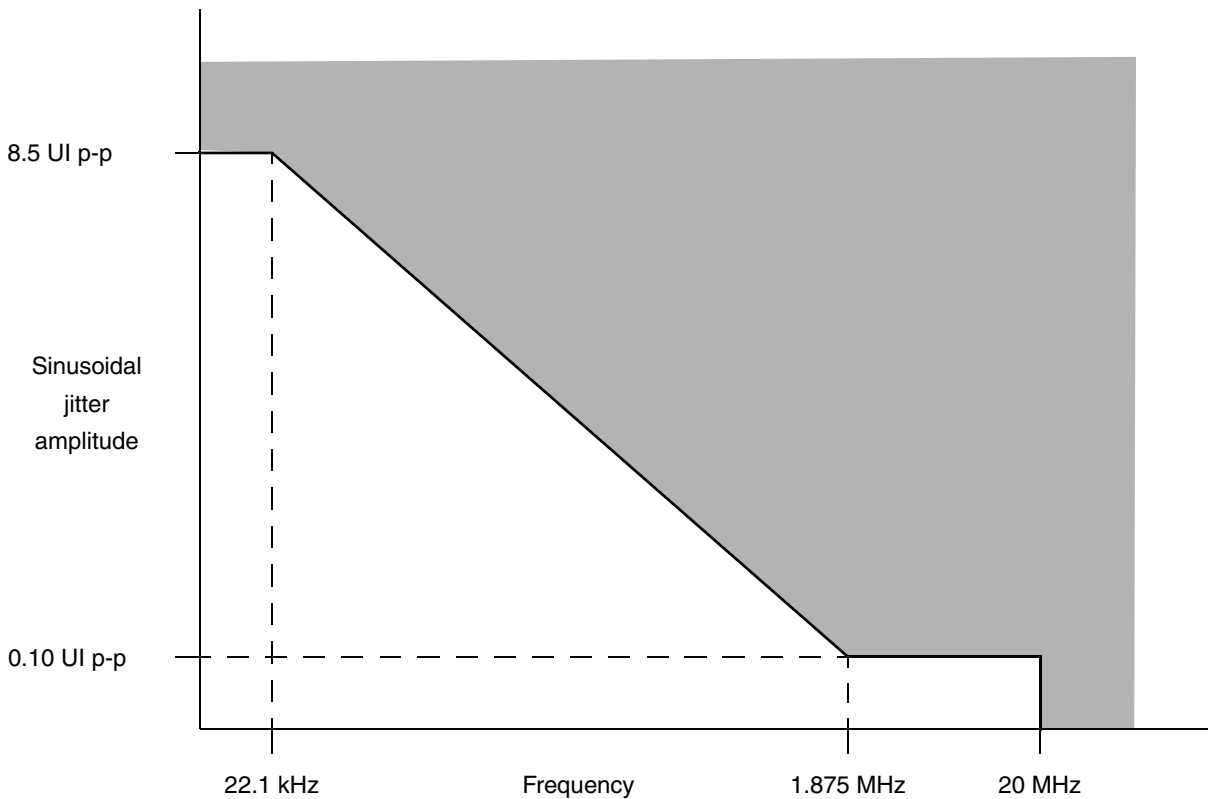

Figure 44. Single-Frequency Sinusoidal Jitter Limits
2. Total jitter is composed of three components: deterministic jitter, random jitter, and single frequency sinusoidal jitter. The sinusoidal jitter may have any amplitude and frequency in the unshaded region of Figure 44. The sinusoidal jitter component is included to ensure margin for low frequency jitter, wander, noise, crosstalk, and other variable system effects.
2. Total jitter is composed of three components: deterministic jitter, random jitter, and single frequency sinusoidal jitter. The sinusoidal jitter may have any amplitude and frequency in the unshaded region of Figure 44. The sinusoidal jitter component is included to ensure margin for low frequency jitter, wander, noise, crosstalk and other variable system effects.